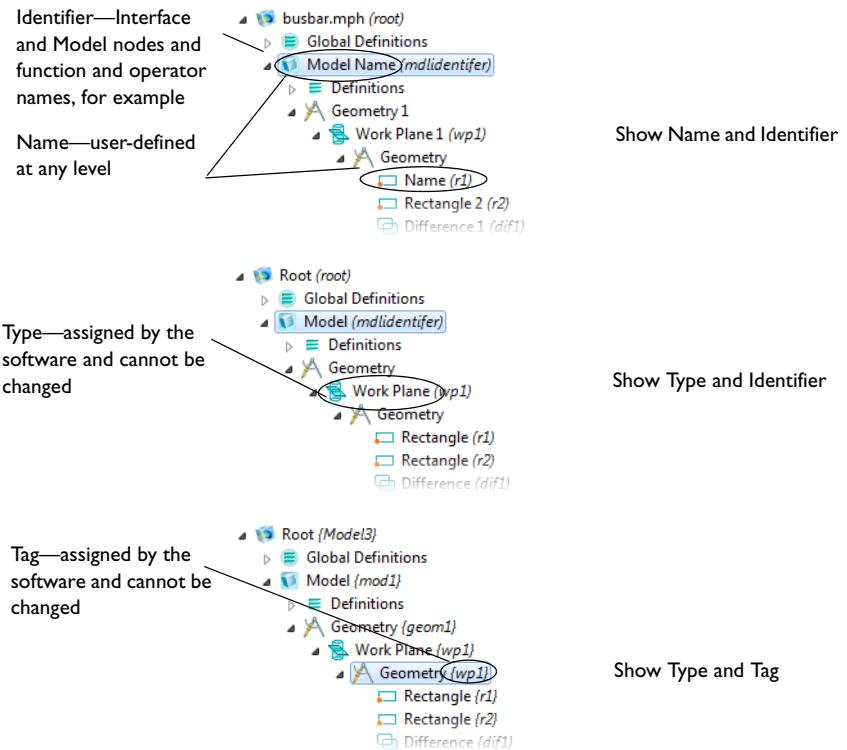

Figure 3-4: Examples of the available label combinations on the View menu.
Use a *model identifier* to access variables throughout the model. The identifier is part of the full reference to variables (for example, when referring to variables in another model). To edit a model identifier, in the **Model Builder**, click a **Model** node. The **Model** node's settings window opens. Edit the default identifiers (**mod1**, **mod2**, and so on) as required in the **Identifier** field. See Figure 3-4 for an example.
- 2 Select **View>Model Builder Node Label** to select from the list: **Show Name Only**, **Show Name and Identifier**, **Show Name and Tag**, **Show Type and Identifier**, or **Show Type and Tag**. See Figure 3-4 for examples of the different label types.